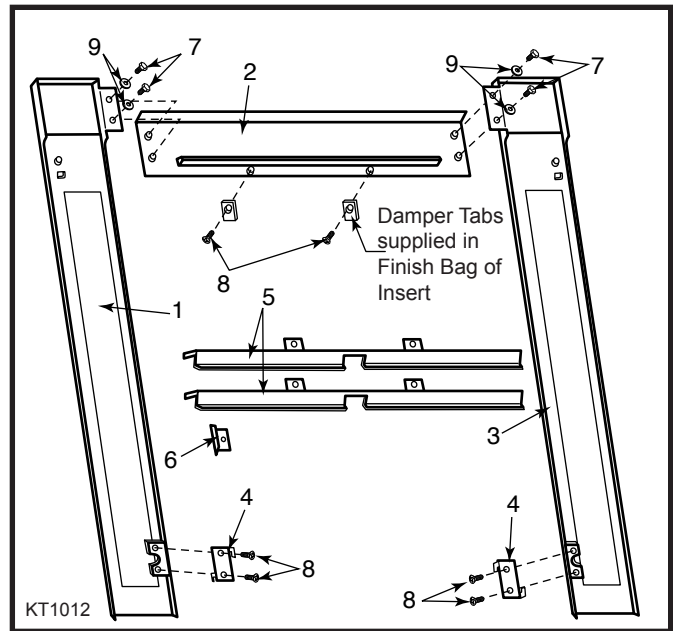

Fig. 2 Rear view of surround assembly.
Compare contents of carton in Figure 2 with actual parts received. If any parts are missing or damaged, contact your dealer before starting the installation.
Lay out the parts, face down, on a flat padded surface. (Fig. 2)
2. Attach the mantel to the columns with four (4) 1/4"-20 hex bolts and washers.
3. Attach two (2) damper tabs (supplied in Finish Bag of Montpelier Insert) using two (2) 1/4" x 3/8" Phillips pan head bolts to backside of center mantel. (Fig. 2) **NOTE:** Make sure damper tabs hang down.
4. Attach the two (2) lower brackets to the bottoms of the columns with two (2) 3/8" Phillips pan head bolts each. (Fig. 2) **NOTE:** When positioning the right column lower bracket, make sure one of the hooked flanges is in the upper right hand corner and facing away from you. (Fig. 2) The left column lower bracket is the opposite way.